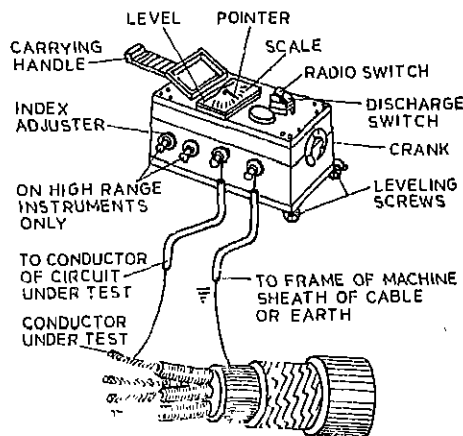

Fig. 33.2 Insulation Resistance Test between Conductors and Earth
- (b) between conductors and earth i.e. to measure the resistance offered by the insulation between any of the cores in the cable and the metallic sheathing (earth). This is shown in Fig. 33.2. The testing voltages should be as under:
- (i) For low tension (LT) cables-1KV.